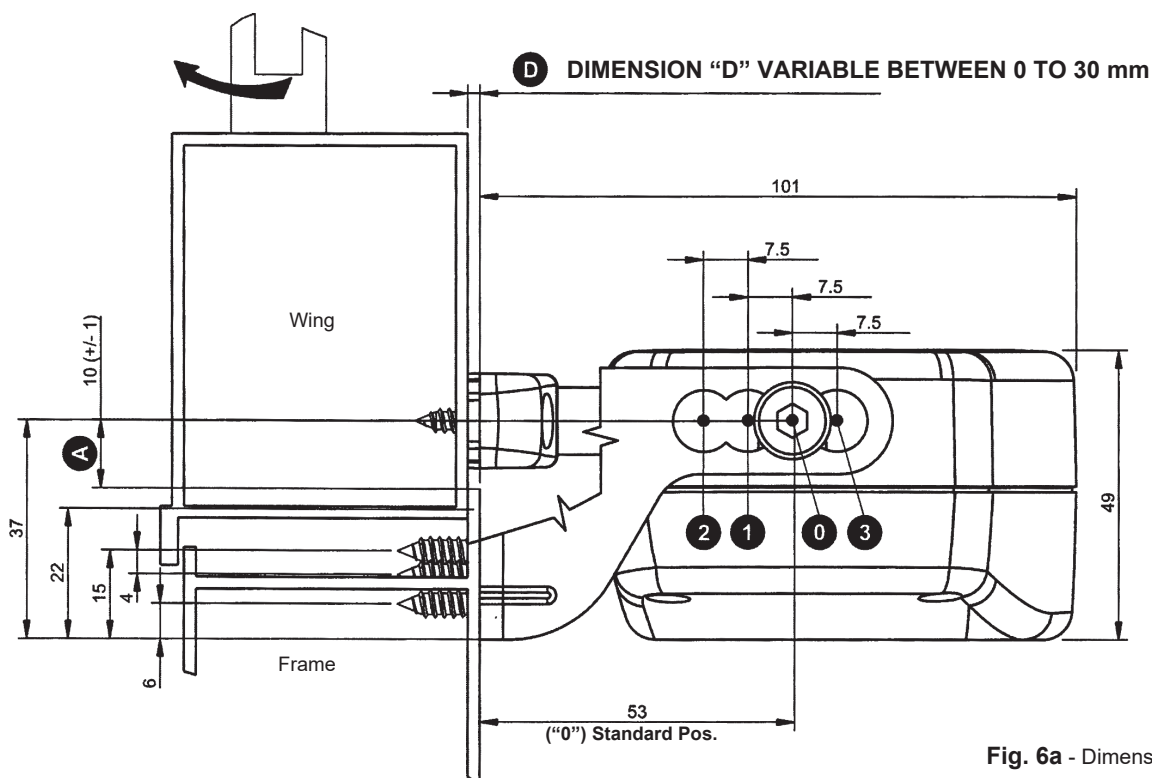

Fig. 6a - Dimensions in mm
- VERIFY THAT THE DISTANCE "D" BETWEEN THE WINDOW FRAME (ON WHICH THE FIXING OF THE ACTUATOR IS FORESEEN) AND THE WINDOW FRAME WING (ON WHICH THE BRACKET FIXING IS FORESEEN) IS INCLUDED WITH IN 0mm AND 30mm, FOR THE TOP HUNG ASSEMBLY (SEE FIG. 6a), AND WITH IN 0mm AND 22mm FOR THE BOTTOM HUNG ASSEMBLY (SEE FIG. 6b).
10) **Fig. 19** - Using the two supplied (Ref. 1) screws tighten the actuator to the window frame connection bracket in the most suitable position according to the value of the overlapped part "D" (See Fig. 6a) and tighten the chain end adjustment screw (Fig. 18 - Ref. 3)